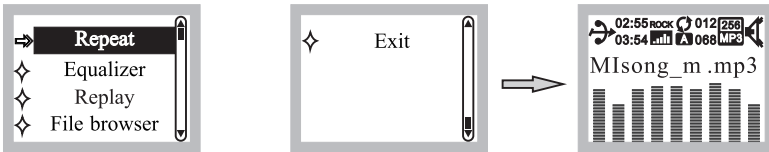

Fig. 10
- (D) Panel Operating Instructions: During track playing, press & hold PLAY/PAUSE  button to enter music parameter selection for changes. Press PLAY/PAUSE button and then press PRV/TEN  or NEXT/ TEN  to locate the desired parameter. Press PLAY/PAUSE to confirm change and save, Fig. 10.
- (E) Remote Operating Instructions: During track playing, press Mode button to enter music parameter selection for change. Press  or  to highlight selection. Press  to confirm.